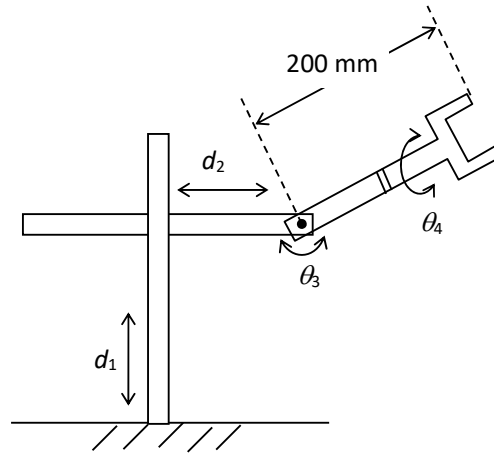

Figure 1
1. A planar robot with four joints is shown in Figure 1. The first two joints are prismatic joints. The other two joints are revolute joints with their axes intersecting at the distal end of link 2. The length of the tool is 200 mm.